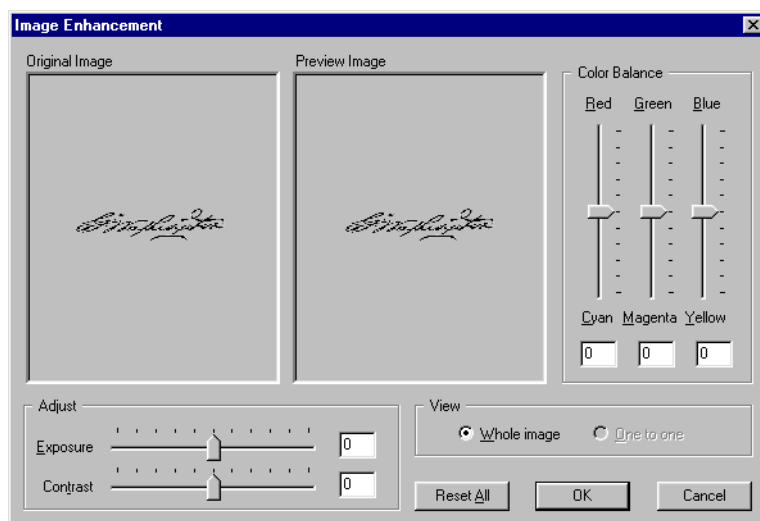

Figure 32: Signature Image Enhancement
10. When an acceptable signature is entered, click the button. The Image Enhancement window appears (see Figure 32).